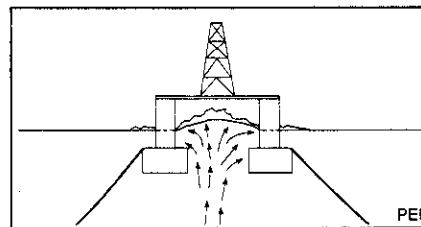

Fig. 3. Twin-hulled semisubmersibles are naturally centered over blowouts, and their low-placed moorings cause little heel.
In contrast, the twin-hulled semisubmersible (Fig. 3) is naturally centered over the blowout, and its low-placed moorings cause little heel. Two key actions will prevent sinking on a ship-shaped vessel: (1) close all watertight doors so com-